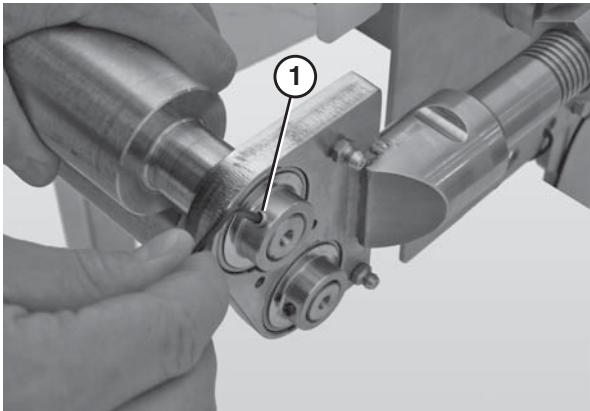

Figure 79
- Use a 4 mm hex wrench to loosen all the bearing fasteners (Figure 79, item 1).